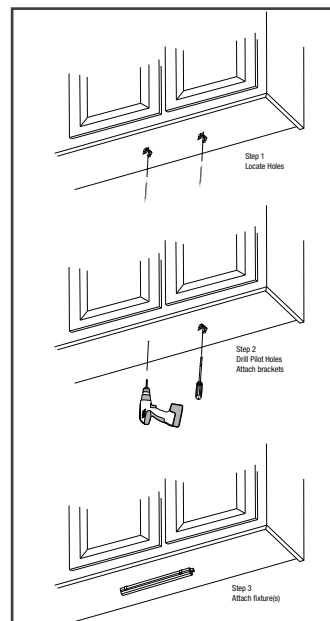

Figure 2
Step 1: Locate Mounting Holes: Place brackets on mounting surface and with a pencil mark the spot where the screws will be located. See Figure 2. Do the same for a multiple fixture installation.